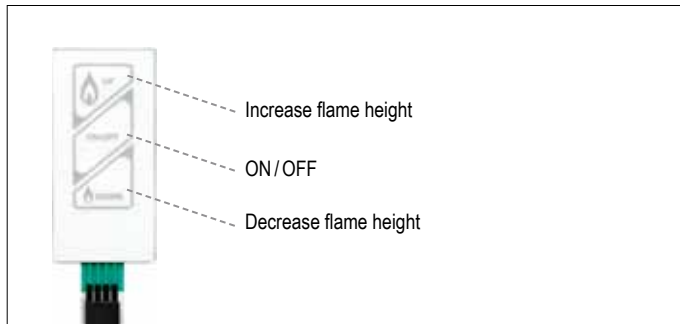

Figure 19: Touchpad/Wall Switch
- Press **ON-OFF** button (see figure 19) until two short beeps (CE, AGA version) or continuous beeping (CSA version) confirm the start sequence has begun; release button.